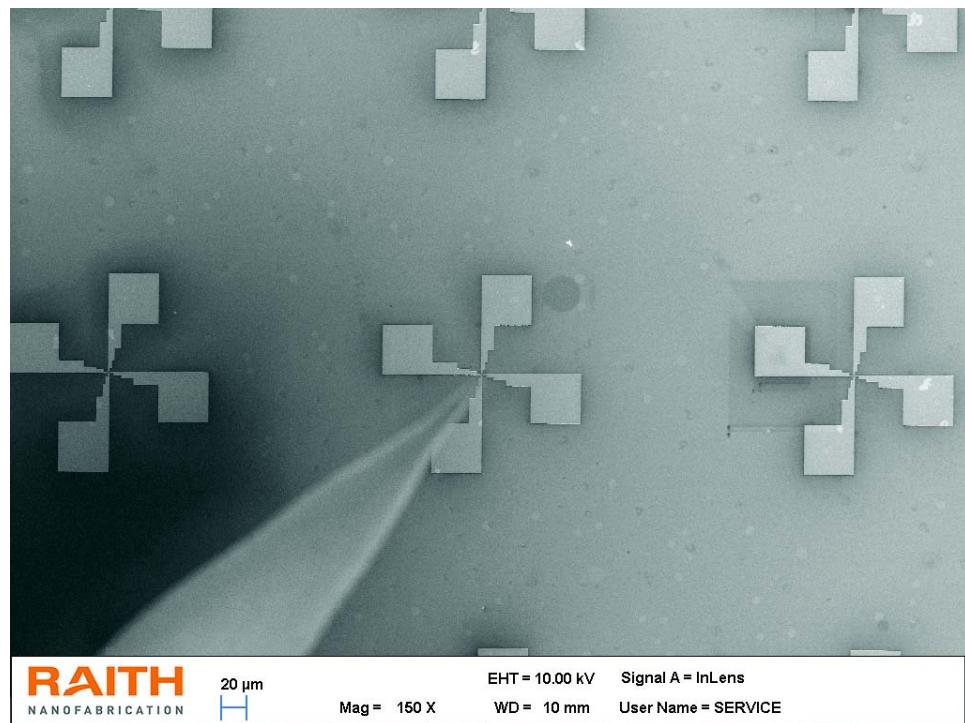

Figure 22-3: Approach process STEP 1b: Image of starting position. Focus on sample, WD at 10 mm (Magn. 150x)
- ▶ Move the sample to a working distance (WD) of 10 mm into the field of view.
- ▶ Move the tip into the field of view with click on in the **Nanomanipulator** dialog (⇒ Figure 22-3 on page 22-8).
- In the **Nanomanipulator** dialog, click on . The **Nanomanipulator: Approach Tool** dialog will be opened (⇒ Figure 22-3 on page 22-8).